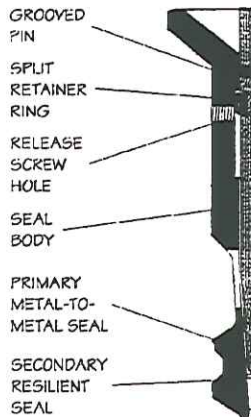

Figure 14. detail of a metal-to-metal type Seal Assembly
1. Refer to **Figure 14**. Drill out the eight grooved pins securing the Seal Assembly to the Lockdown Sleeve.